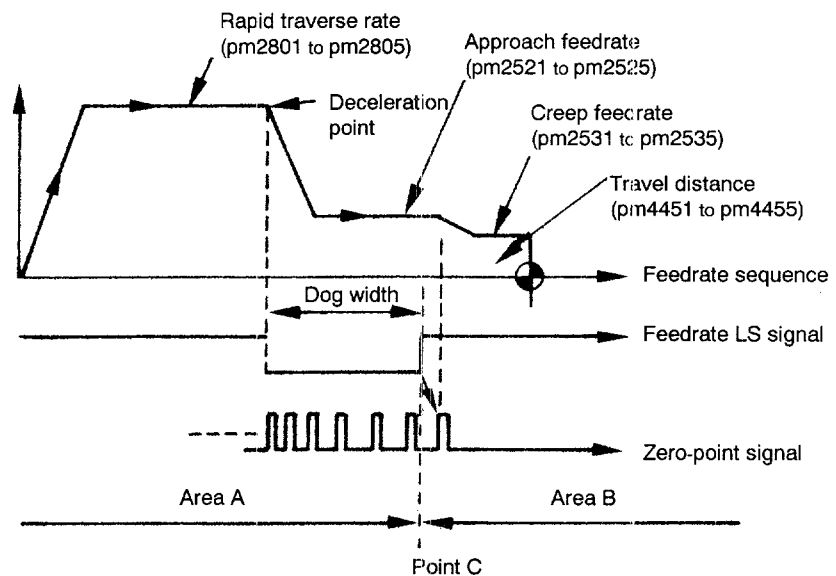

Fig. 2.9 Manual Reference Point Return
- ① Select the rapid or jog mode by placing the MODE SELECT switch on the machine operation panel in the RAPID or JOG position.
- ② Move an axis manually (manual rapid traverse or jog feed) to a position away from the reference point (within the reference point return enabled area). When an axis is located in range A in Fig. 2.9, reference point return can be executed correctly.
- ③ Turn ON the REFERENCE POINT RETURN switch.
- ④ Keep the JOG switch pressed corresponding to the axis to be returned to the reference point and in the return direction. When the JOG switch is held pressed, the corresponding axis starts moving in the same manner as ordinary manual axis feed operation. When the axis reaches the deceleration point, feedrate is decelerated to a low feedrate and the axis stops automatically at the reference point.
- ⑤ Upon completion of the reference point return, the REFERENCE POINT lamp of that axis lights.
1. Once the reference point return is completed, point C indicated in Fig. 2.9 is stored to the NC. Therefore, if reference point return is attempted while an axis is in area B, an error occurs. In this case, the axis should first be returned to area A and then the reference point return should be executed.